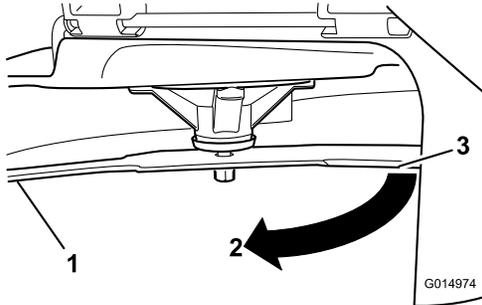

Figure 61
3. Second measured distance between blade and surface (B)
4. Rotate the same blade 180 degrees so that the opposing cutting edge is now in the same position (Figure 61).